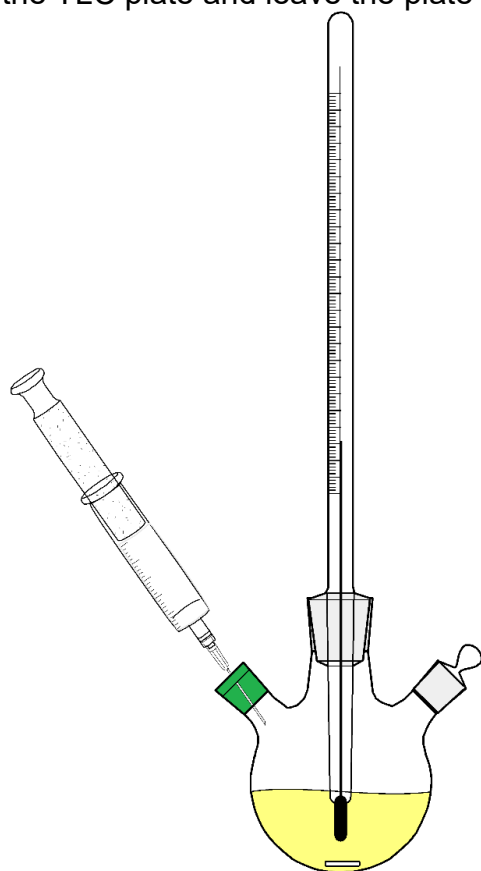

Figure 1. Synthesis apparatus
4. Take 15 cm³ of calcium hypochlorite solution using a syringe with needle, pierce the septum with the needle and add the calcium hypochlorite solution dropwise to the solution over a period of ~20 minutes. Maintain the temperature of the reaction between 15–20 °C. (See Figure 1.)